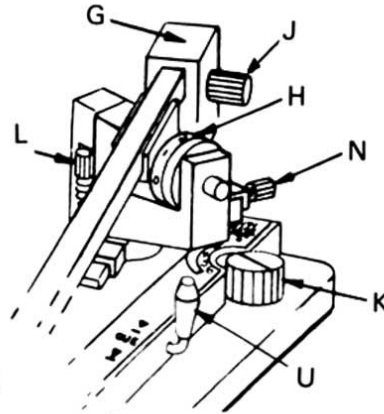

Fig. 1
1. PICKUP ARM BALANCE (Refer to Fig. 1 and 2)
- Rotate stylus pressure dial "H" Fig. 1, until "0" coincides with marked line on pickup body.
2. STYLUS PRESSURE (Refer to Fig. 1)
3. ANTI-SKATE CONTROL (Refer to Fig. 1)
4. TONE ARM HEIGHT (Refer to Fig. 1)
5. STYLUS SET DOWN (Refer to Fig. 1)
CUEING LEVER AND PAUSE CONTROL (Refer to Fig. 1)